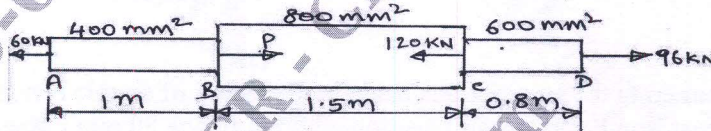

Fig. Q1 (c)
- c. A steel bar ABCD of varying sections is subjected to the axial forces as shown in Fig. Q1 (c). Find the value of P necessary for equilibrium. If $E = 210 \text{ KN/mm}^2$, determine (i) Stresses in various segments and (ii) Total elongation of the bar. (08 Marks)